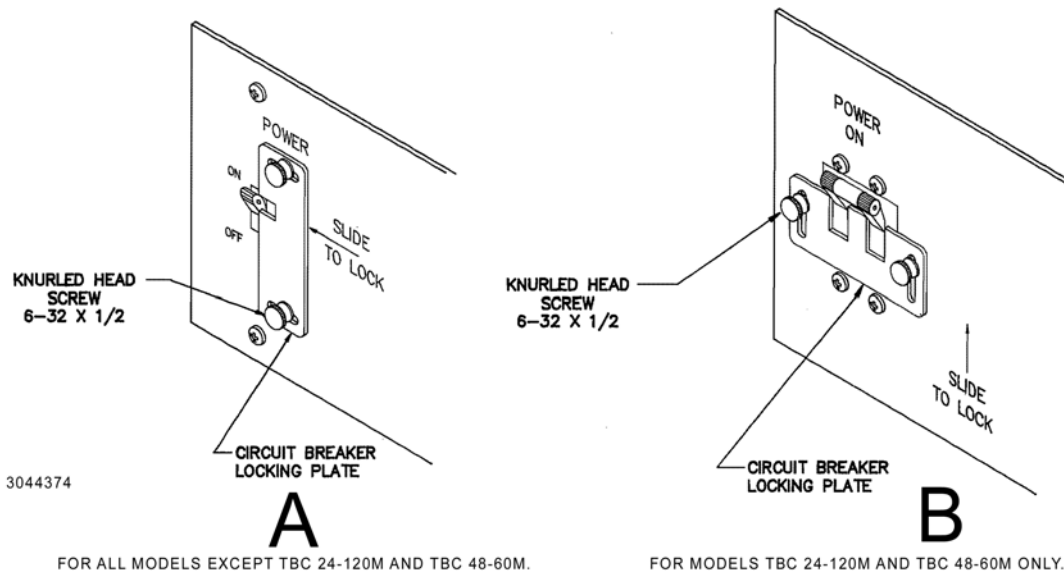

FIGURE 2-5. CIRCUIT BREAKER LOCKING PLATE
A kit that contains two handles (each one with two ferrule mounts) and two flanges (ears) for rack mounting is provided with the TBC. Four screws (flat head 10-32 x 1/2, 100 degrees countersink); six screws (truss head, phillips 10-32 x 3/8, black); and six Internal lockwashers (no. 10) are also included. The mounting flanges (ears) for mounting the TBC in a rack can be installed in either position 1 or position 2 with three screws (Truss Head Phillips 10-32 x 3/8 Black); and three Internal Locking washers, No. 10 (see Figure 2-5). Position 1 is for regular front panel rack mounting, and position 2 is for rack mounting with part [5 inches (127)] of the TBC Battery Charger extended beyond the front of the rack. Install one mounting Ear on each side of the TBC unit.